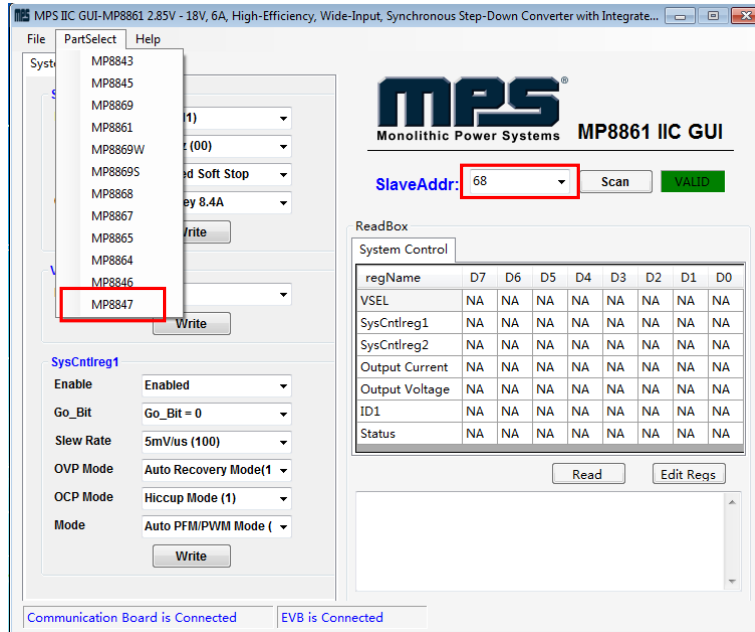
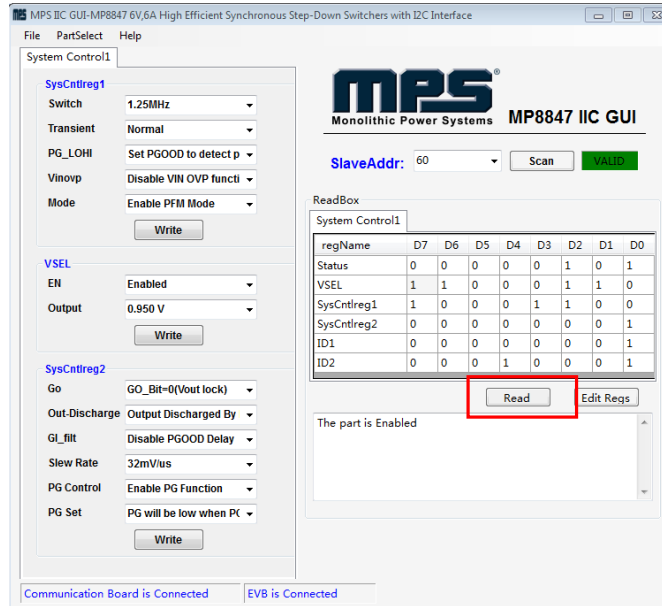

Figure 7: Appearance of Address Shows Successful Connection
Figure 9: Values from I²C Shown in Table
- If connection is successful, the address will be listed in the “Slave Address” (see Figure 7).
3. Click the **PartSelect** button to select the MP8867 (see Figure 7) (The default GUI window is for the MP8861). The Register Control menu will appear on the left side. The I²C register values will be read and displayed on the right side after clicking the **Read** button (see Figure 9).